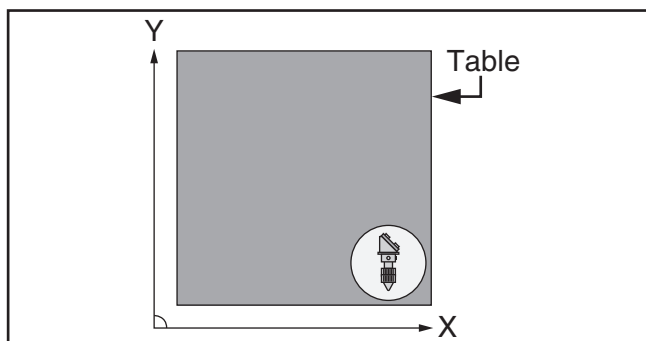

Figure 111. Laser head assembly in lower right corner of table.
22. Move laser head assembly to lower right corner of table (see **Figure 111**).